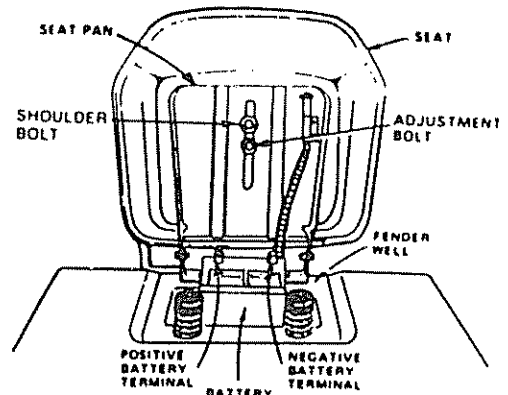

FIGURE 2
- Place seat on seat pan. Screw hex head machine screw, lockwasher and flat washer into seat (Fig. 2). Screw shoulder bolt and flat washer into seat (Fig. 2). Machine screw, shoulder bolt and flat washers found in bag of parts (shown full size on page 6).
- Lift seat (Fig. 2).